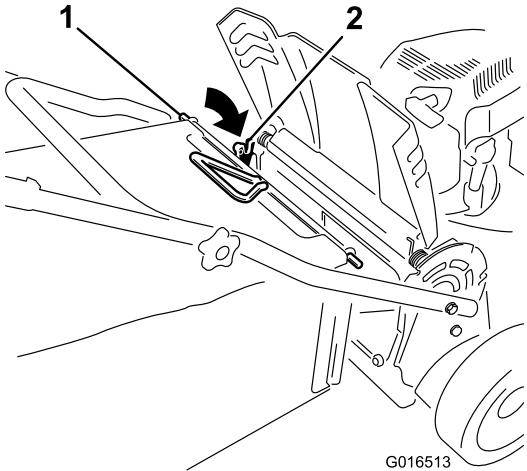

Figure 27
- Install the bag rod into the notches at the base of the handle and rock the bag back and forth to ensure that the rod is seated at the bottom of both notches; refer to Figure 27.